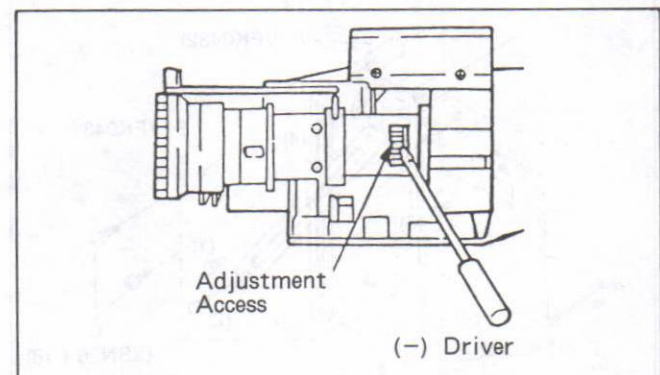

Fig.C6
- (1) Aim the Camera at the Hunting Chart 3m distance and zoom all the way in (Fully tele position.)
- (2) Focus the lens on the object.
- (3) Confirm that Focus-ring indicates 3m.
- (4) Adjust the relay lens adjustment point as shown in Fig. C6.